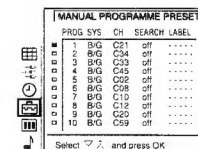

Fig. 7
- Select »Manual Programme Preset« with  $\Delta$  or  $\nabla$  and press OK. The MANUAL PROGRAMME PRESET menu appears. (See Fig. 7.)